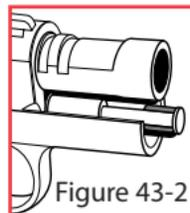

Figure 43-2
2. Firmly "snap" the takedown piece over the exposed portion of the guide rod between inner spring plug and guide rod cap. (See fig. 43-2)